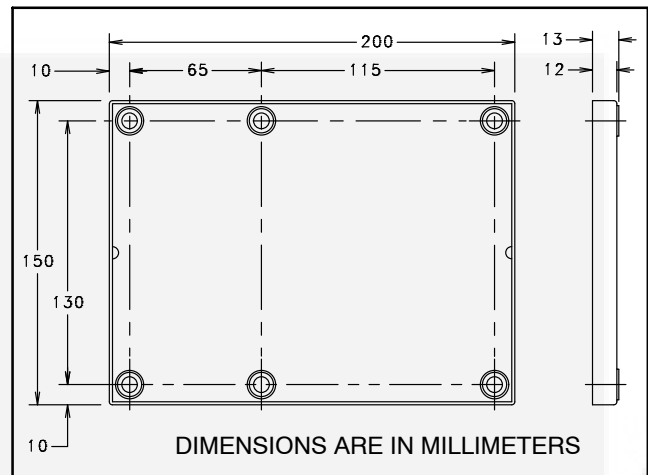

FIGURE 3-15. 1302 CONTROL FOOTPRINT
2. Select a suitable location (see “Mounting Guidelines” on page 3-1) and mount the 1302 control board using M4 hardware. Figure 3-15 shows the control board dimensions. The outside dimensions do not include necessary clearance for wire connections.